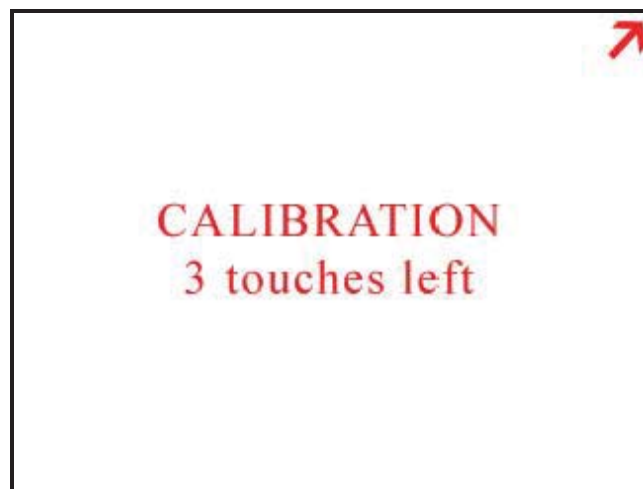

Figure 4-31 Alignment Step 2
- Touch the circle in the upper right corner. See Figure 4-31.